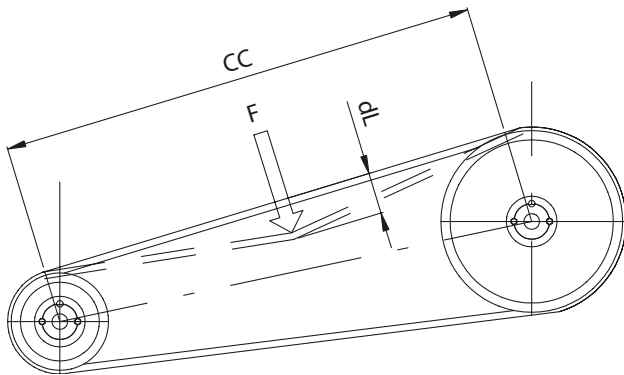

Fig. 2. Belt tension.
3. Tighten the belt until the belt can be bent approximately 23/64" (dL) at a pressure of approx. 19 lb (F), see Fig. 2.